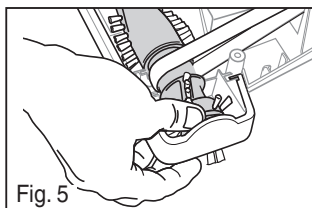

Fig. 5
- 5) Insert left end of brush roll first. Make sure end cap fits into base. Pull right side of brush roll to stretch belt and insert right end cap into base (Fig. 5). Make sure it slides into position.